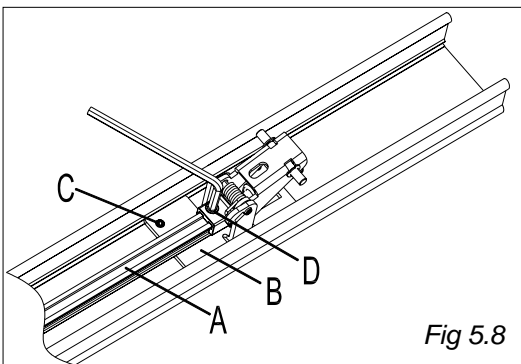

Fig 5.8
- 8) If the required length is less than 650mm, the Driver Bar also needs cutting. Remove the Rear Follower Assembly (four grub screws plus Drive Bar clamp screw). Release clamp screw at opposite end. Remove Drive Bar. (See Fig 5.8)
- b) Slide Rear Follower assembly into the base extrusion until the Drive Bar fits into the rear clamp. Secure with grub screw (**See Fig. 5.8**).